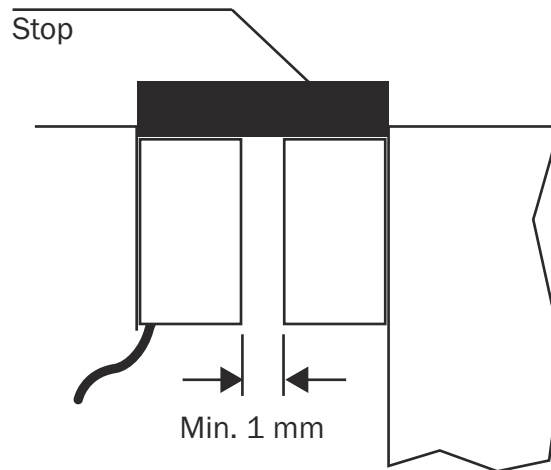

Figure 12: Mounting example for safety switch and actuator
- ▶ Fit an additional stop and guide for the moving part of the protective device (figure 12).